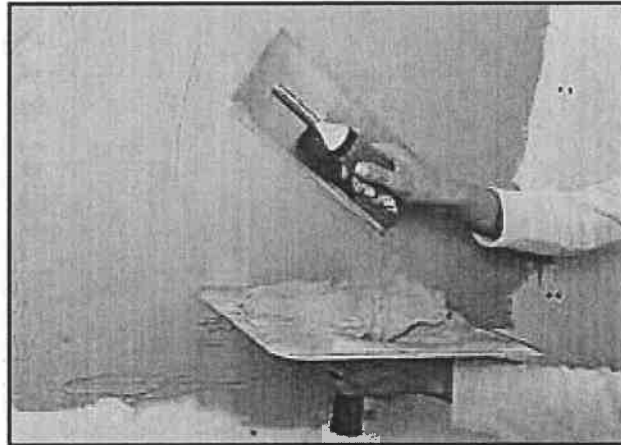

FIGURE 5.1
5.1 FIGURE 5.1 below shows a worker busy on a construction site.